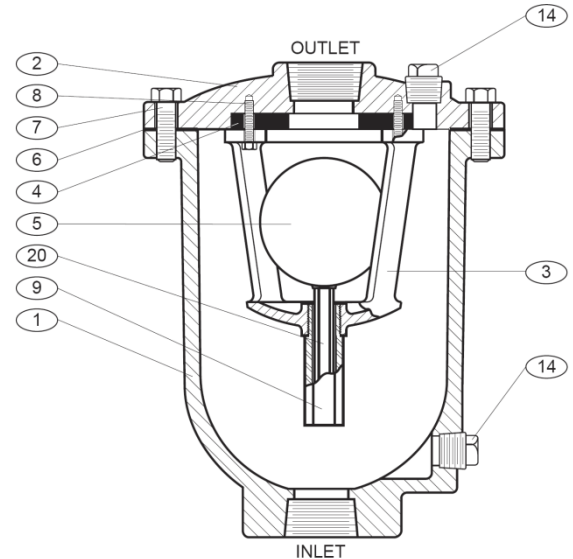

Figure 2. 1/2-3" Air/Vacuum Valve
The standard Air/Vacuum Valve body and cover are cast iron. See specific Materials List submitted for the order if other than standard cast iron construction. The internal metal components are stainless steel. The float (5) is the only moving part assuring long life with minimal maintenance. The general details of construction are illustrated in Figure 2. The body (1) is flanged for connection to the pipeline. The resilient seat (4) is retained in the cast cover (2). An optional hood is available.
The valve can be disassembled without removing it from the pipeline. Or for convenience, the valve can be removed from the line. All work on the valve should be performed by a skilled mechanic with proper tools. All work on the valve should be performed by a skilled mechanic with proper tools. Refer to Figure 2.